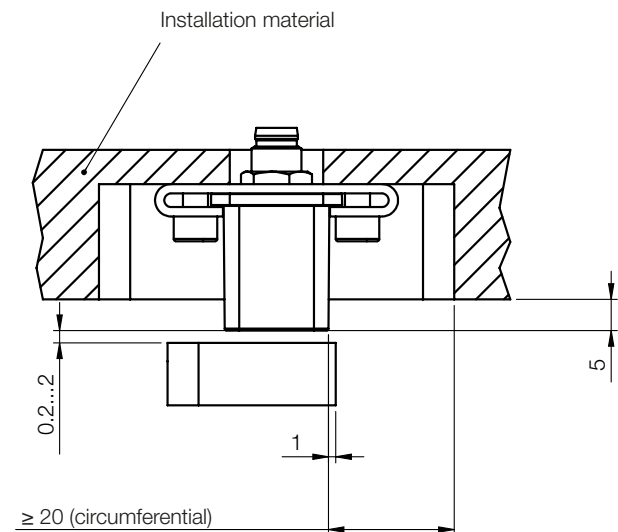

Fig. 4-3: Installation dimensions
- In order to prevent effects on the measurement signal by the installation material, a metal-free area around the active surface of the BIP of approximately 20 mm must be maintained (see Fig. 4-3). If the BIP detects not only the magnet, but also another metal piece, invalid measurement signals will result.